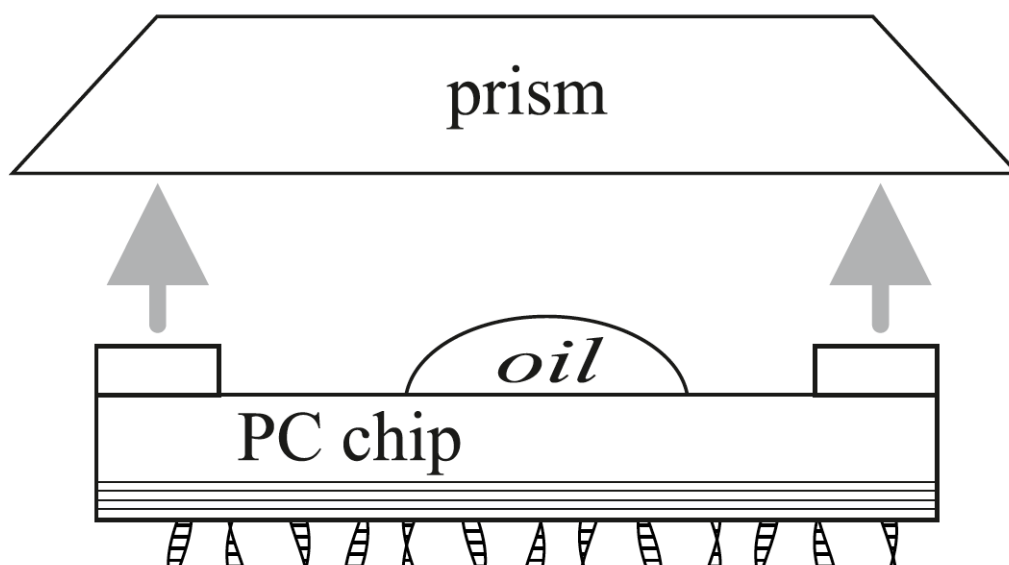

Figure 5. Attaching the sensor chip to the prism (with a drop of high-viscosity oil).
- 2) Place one *small* drop of the matching oil on the opposite side of the sensor chip (with two white stripes) and press it into contact with the glass prism in the Biosensor's optical unit (see **Figure 5**). **Note:** *The white stripes may be horizontally aligned to fit the flow cell size.* An oil with high viscosity is preferable for this purpose. For example, the following oil is recommended: